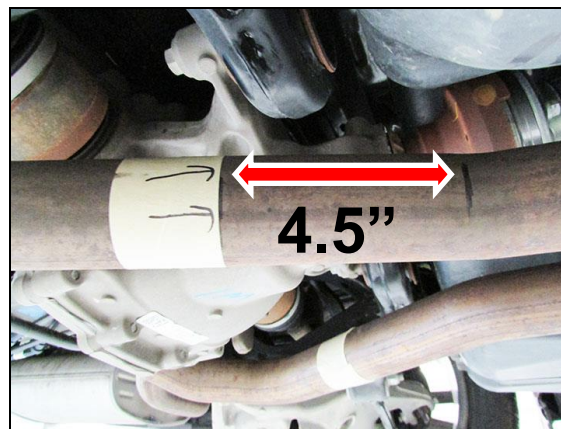

Figure 3
5. With a permanent marker, locate the tangent line (where the bend ends and the straight section of pipe begins) of the right side OE mid pipe and mark a straight line. Now, mark another straight line exactly 4.5" after your tangent mark (4.5" towards the direction of the rear of the vehicle). We suggest using masking tape to wrap around the OE mid pipe to ensure a straight cut. Draw arrows to ensure that you cut the correct side of the masking tape (Figure 3). **DOUBLE CHECK AND MEASURE TWICE BEFORE CUTTING.**